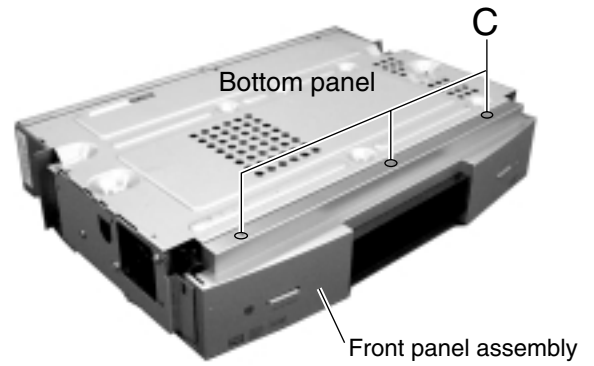

Fig.3
(See Figs.3 to 7)
1. Remove the front panel assembly and the DVD mechanism base together from the main unit. (See Figs. 3 to 7.)